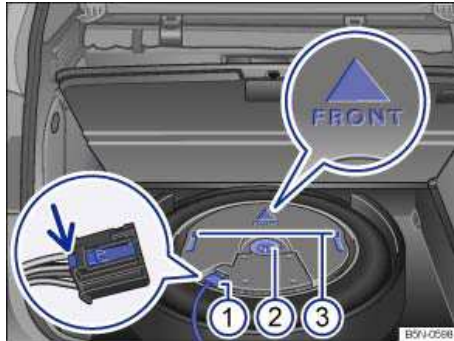

Fig. 199 Under the luggage compartment floor: Fender Premium Audio subwoofer.
1. Completely unscrew the fastening screw ⇒ fig. 199 (2) counterclockwise and remove with metal cap.
2. Grasp the subwoofer by the handles (3) and partially remove it from the recess.
3. Disconnect the electrical connector (1) from the subwoofer by pressing the release tab in the direction of the arrow (close-up), then pulling the connector out of the socket.
1. Grasp the subwoofer by the handles (3) and put it down close enough to allow the electrical connector (1) to be reconnected.
3. The arrow must be pointing toward the front of the vehicle ⇒ fig. 199 (close-up).
4. Reinstall the fastening screw with metal cap and tighten it (2) clockwise.